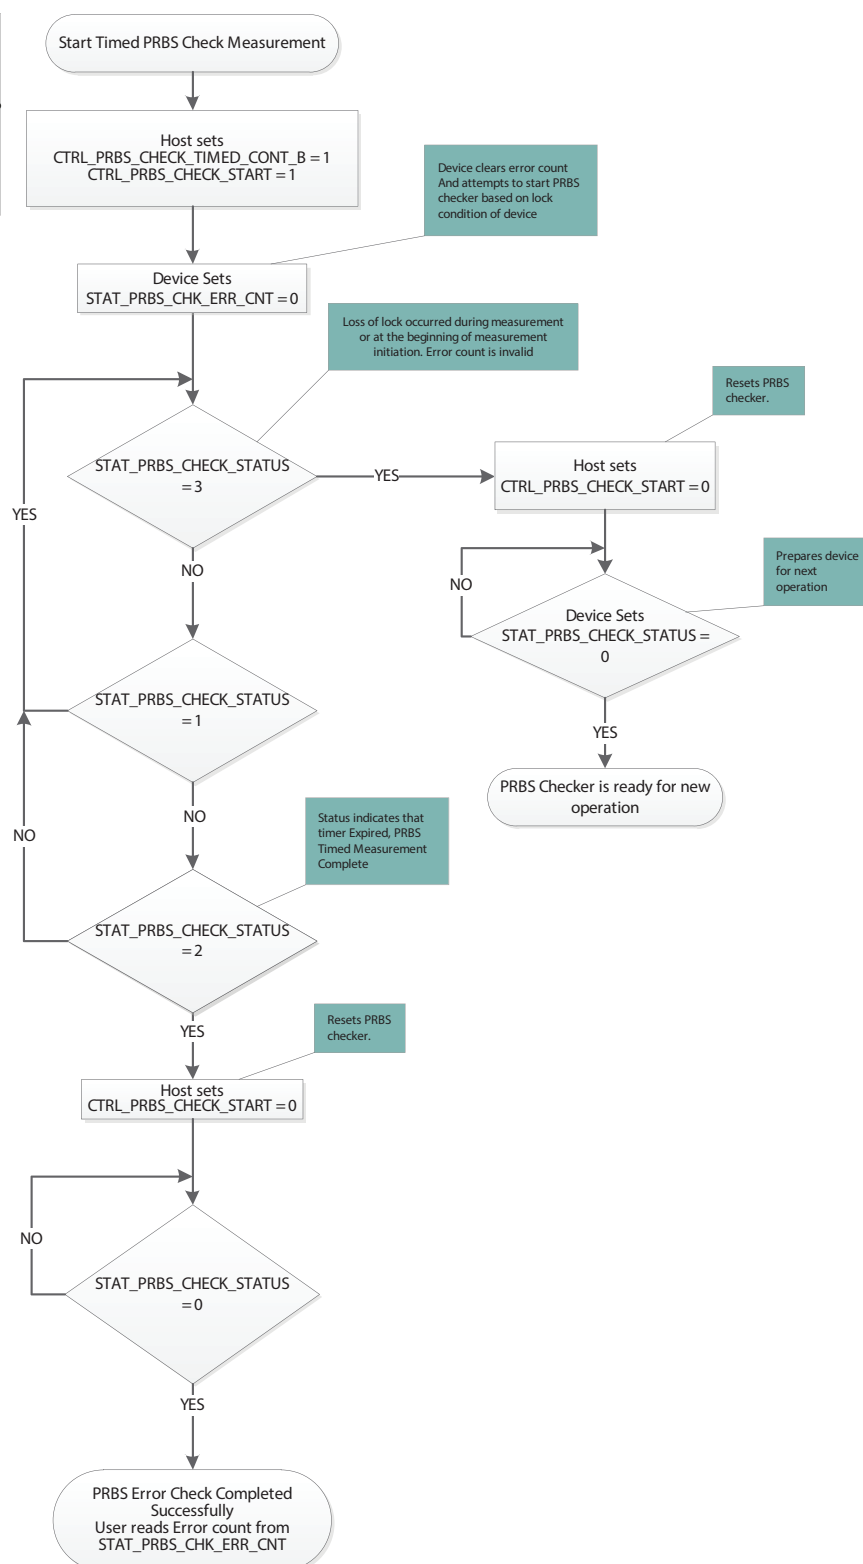

Figure 4-4: Timed PRBS Check Flow
- 2) Follow the steps outlined in Figure 4-4: Timed PRBS Check Flow.